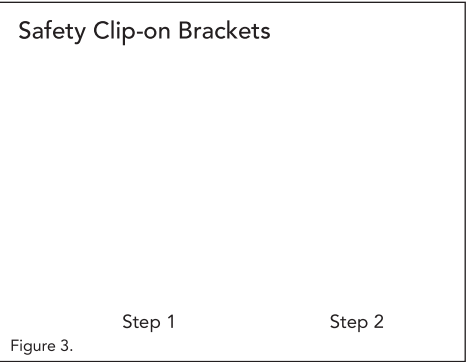

Figure 3.
- Mark out the distance between the brackets and the positions for the screw holes as shown in figure 2 and the dimension tables at the top of page 7, and ensure the safety clips are used (see figure 3).
Electrorad Digi-Line Double Panel (refer to figure 3)